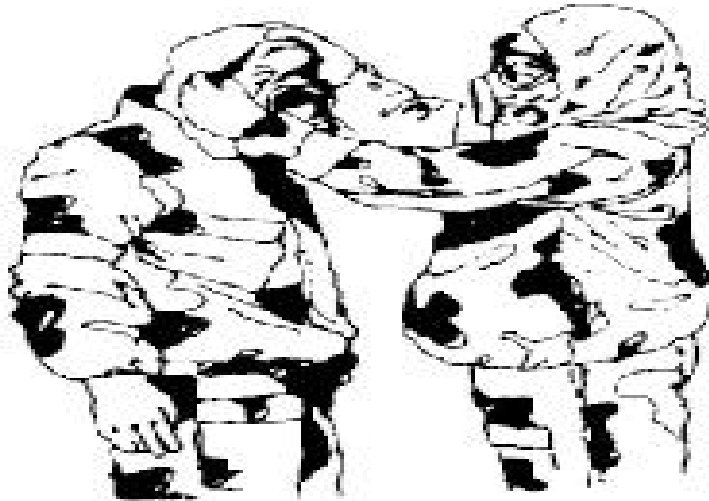

Figure E-88. Rolling the hood.
5. Roll your hood (figure E-88).